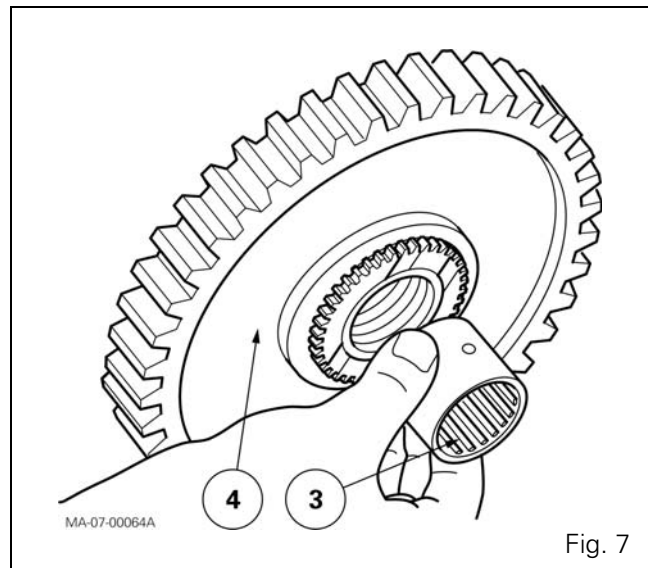

Fig. 7
31. Using a jet of compressed air, check that the oil channel in the shaft (13) is not obstructed. Lubricate the rings (19) (20). Refit the pinions (4) (7), the coupler (5) with the hub (6), the ring (3), with the opening of the teeth turned towards the rear of the tractor (Fig. 7).